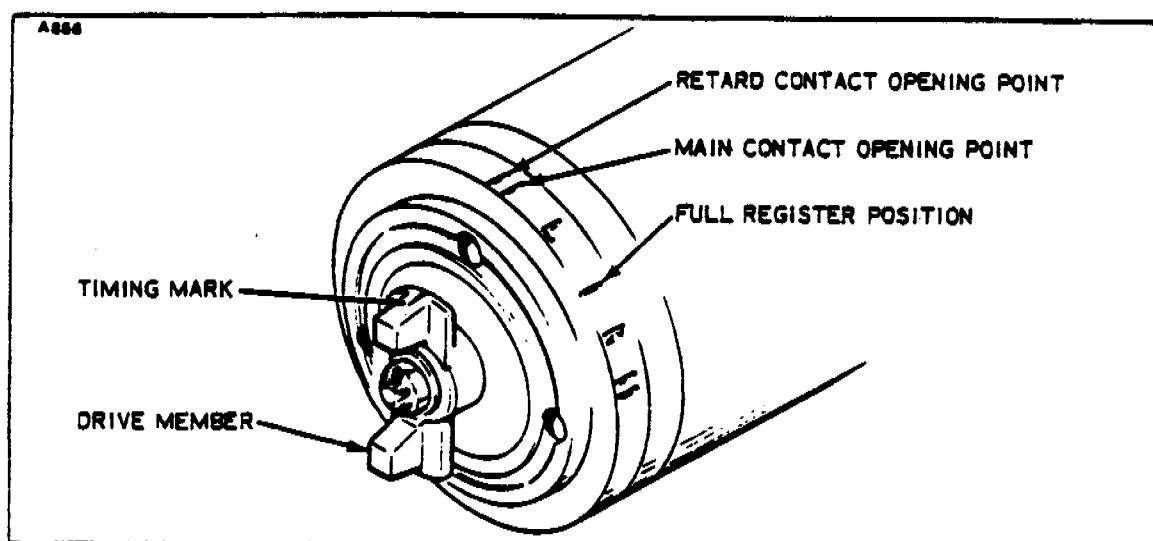

FIGURE 7B-8. MAGNETO TIMING MARKS
b. Loosen cam securing nut and run nut up flush with end of shaft. Loosen nut on drive end of rotor shaft. Remove main and retard contact assemblies and capacitor from breaker support assembly. Rework a plain washer as shown in Figure 7B-9. Slide inside diameter of washer against rotor shaft between cam and breaker support assembly. Tighten nut on drive end of magneto until cam is loose on rotor shaft. Remove reworked washer from housing.
c. Remove cam securing nut and lift out cam. Position distributor finger on cam flange and file a notch on edge of cam flange aligned with proper timing mark on finger. (Refer to Figure 7B-10.) Reposition cam on rotor and install securing nut flush with end of rotor shaft. Be sure notch on cam can be seen when looking in contact assembly end of magneto.